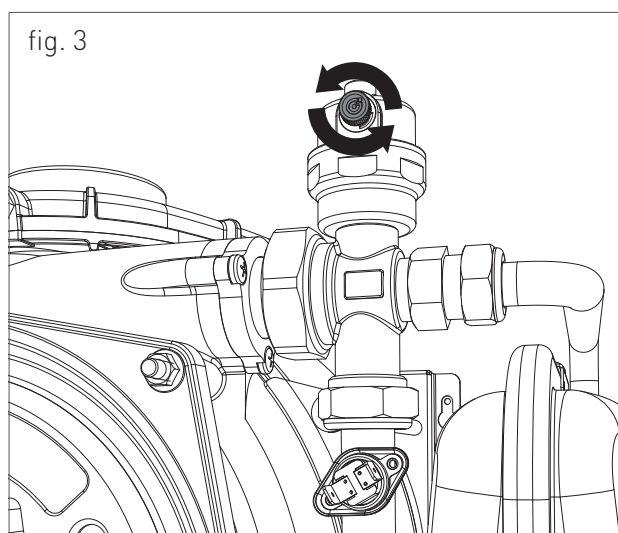

fig. 3
2. slightly loosen the cap of the jolly valve placed on the top of the condensing block (fig. 3) to release the air form the top of the system;